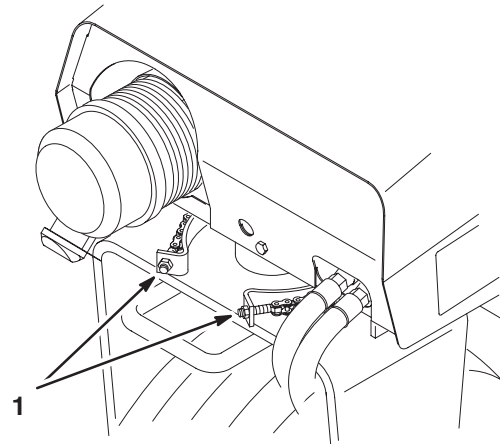

Figure 22
2. Adjust the locknuts until the chain is snug on both sides of the sprocket (Fig. 22).